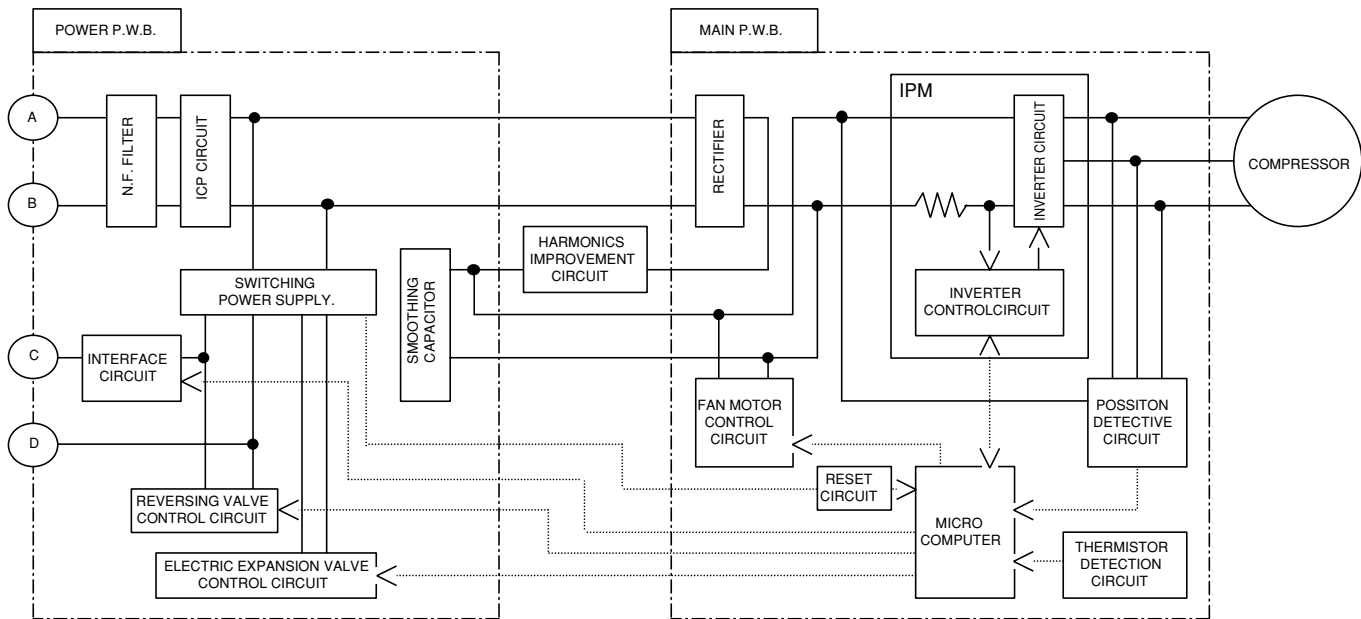

Fig. 1-1
1. The electrical parts for the outdoor unit is composed of two P.W.B. (a power P.W.B. and main P.W.B.) and a harmonics improvement circuit as shown in Fig. 1-1.